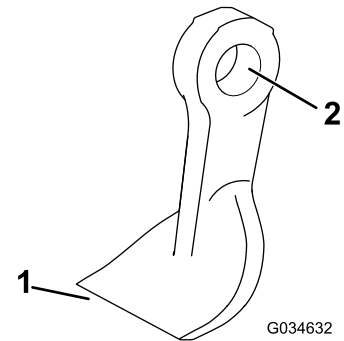

Figure 21
3. Inspect each blade for damage paying particular attention to the fasteners, cutting edge, and installation hole (Figure 21). Replace all damaged blades and fasteners.